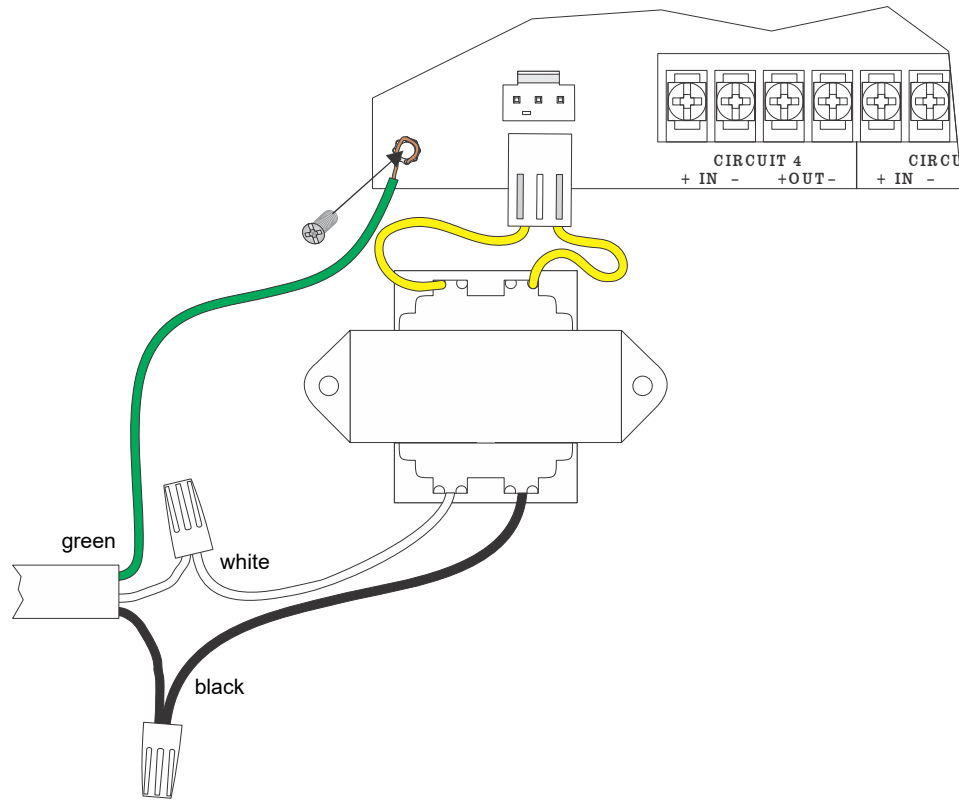

Figure 4.29 AC Connections
4. Connect AC power to the transformer as shown in Figure 4.29.